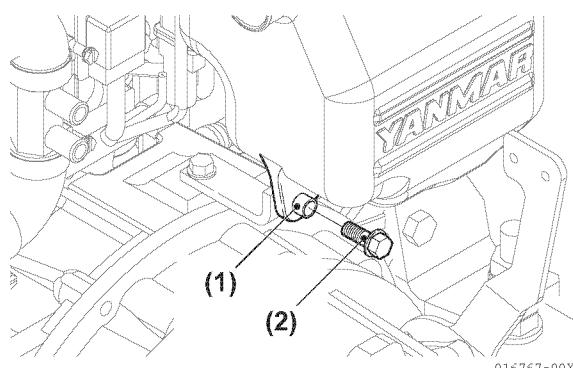

Figure 5-197
66. Insert the collar into the hole of silencer and fix to the bracket by bolt (**Figure 5-197**).